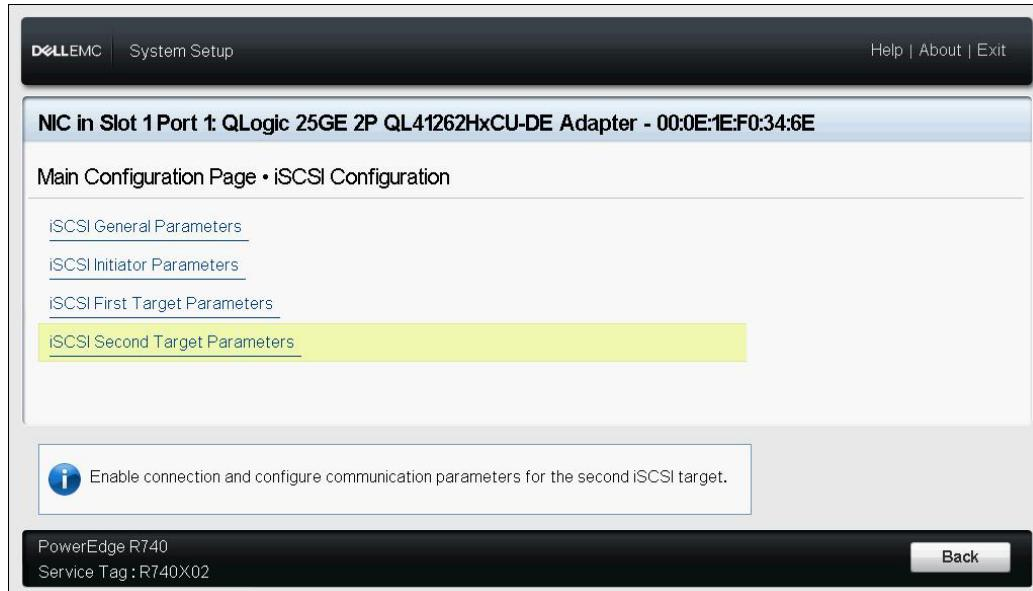

Figure 9-13. System Setup: iSCSI Second Target Parameters
12. If you want configure a second iSCSI target device, select **iSCSI Second Target Parameters** (Figure 9-13), and enter the parameter values as you did in Step 10. Otherwise, proceed to Step 13.